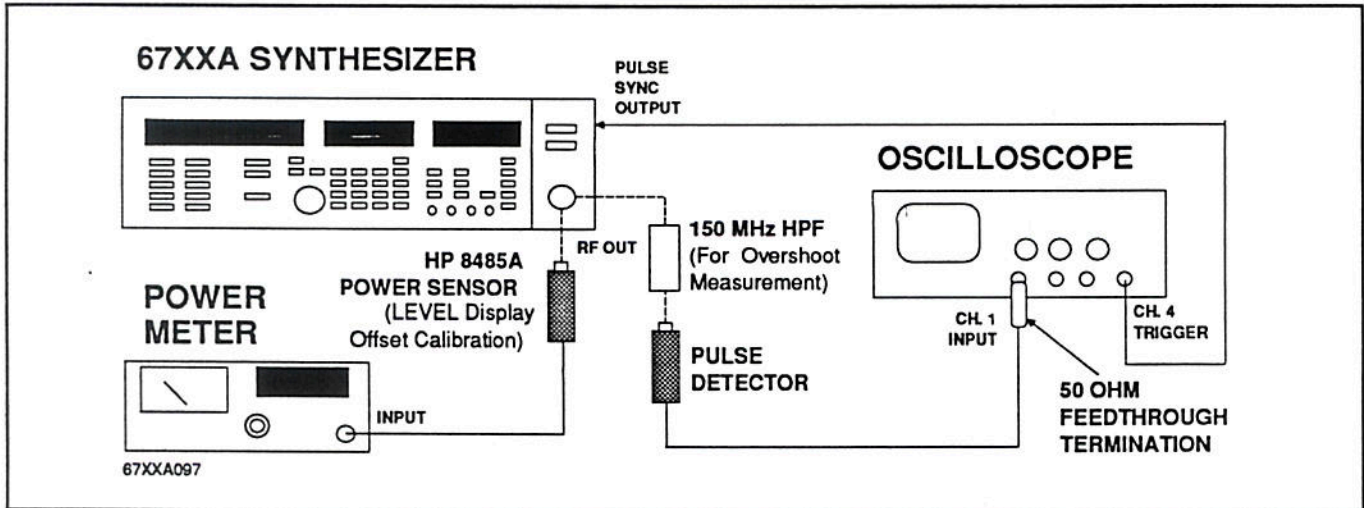

Figure 2-12. Equipment Setup for Pulse Modulation Tests
1. For all models, connect the equipment as shown in Figure 2-12.